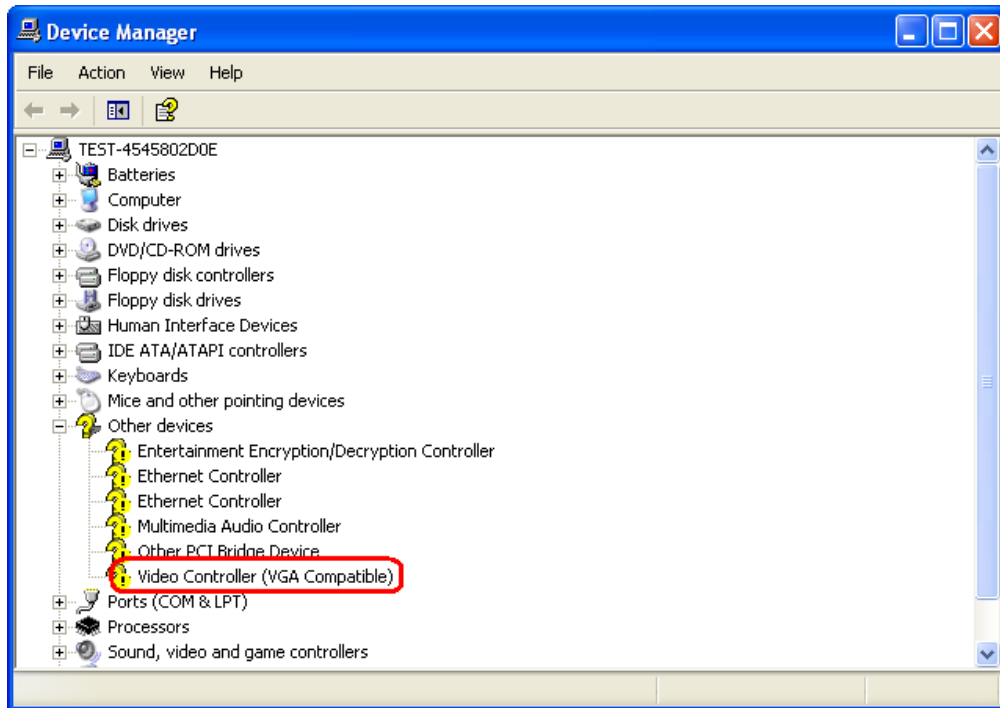

Figure 7-7: Video Controller (Device Manager)
Step 2: Right-click the **VGA CONTROLLER (VGA COMPATIBLE)** option listed under **OTHER DEVICES** in **Figure 7-7**.